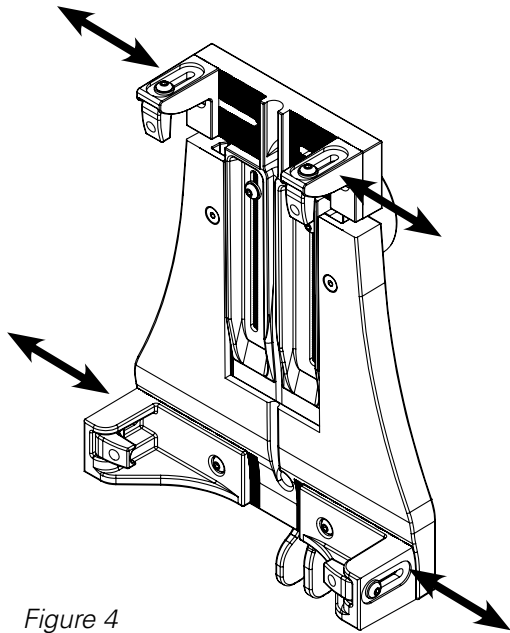

Figure 4
4. Place the tablet in the holder. Move the bottom and top width adjusters left/right to fit the tablet. Ensure the top width adjusters do not interfere with the tablet's buttons, ports, or camera. (figure 4)